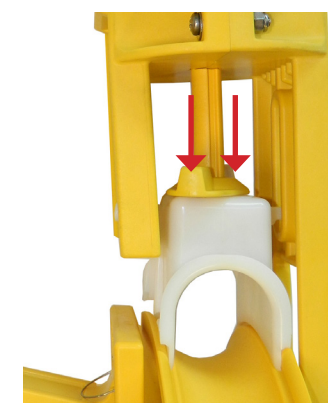

Fig. 6
- (1) Push down on Lock Nut - two hands may be required. (Fig. 6)